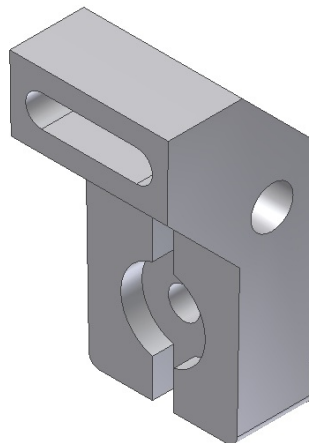

Figure 8-162 Selecting the options for the face draft
4. Select both side faces one by one, refer to Figure 8-162.